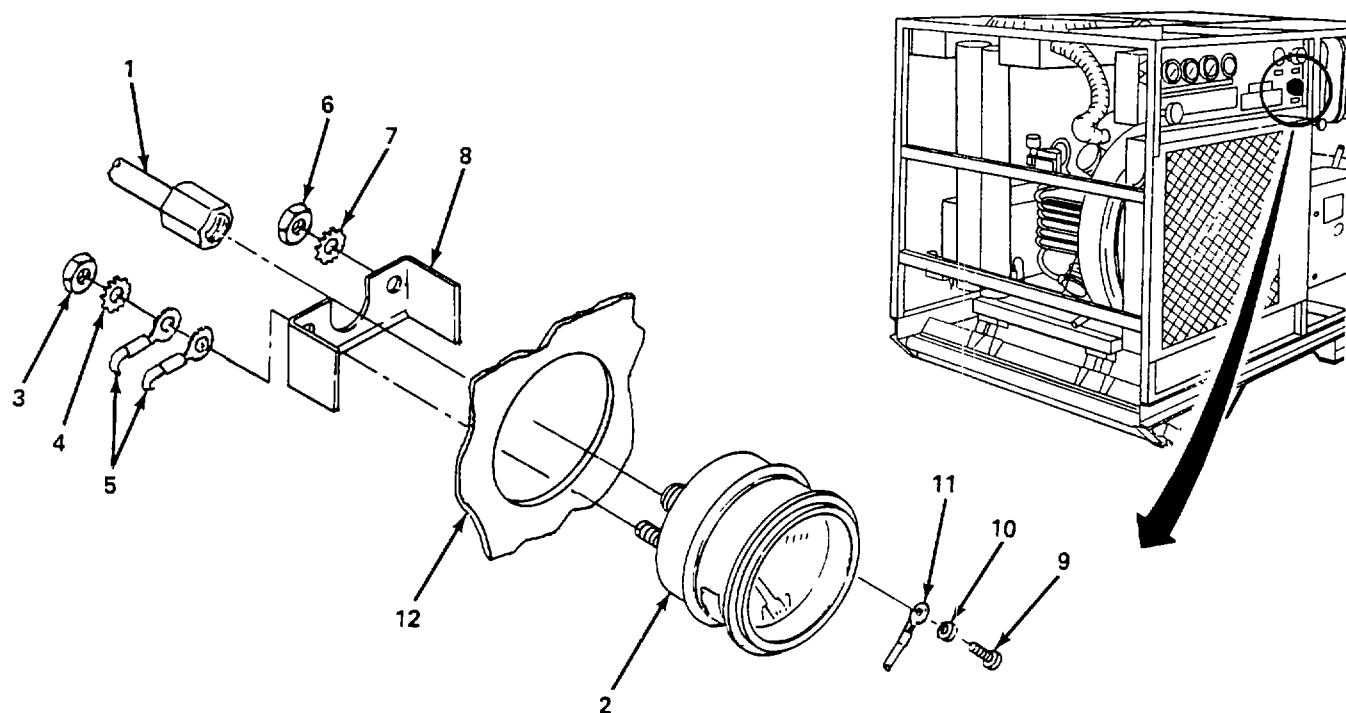

Figure 4-11. Temperature Gage, Replace.
(2) *Temperature gage.* (figure 4-11)